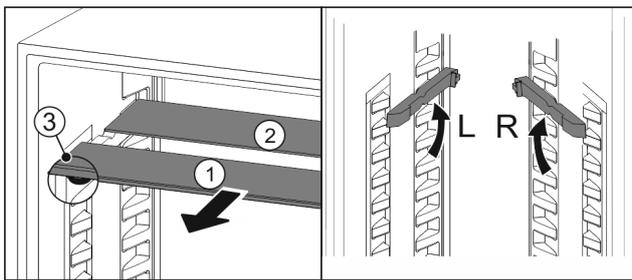

Fig. 37
- ▶ Pull the glass panels out Fig. 37 (1) from the front, one at a time.
- ▷ The glass panel Fig. 37 (1) and trim strip are at the front.
- ▷ The stops Fig. 37 (3) point down.